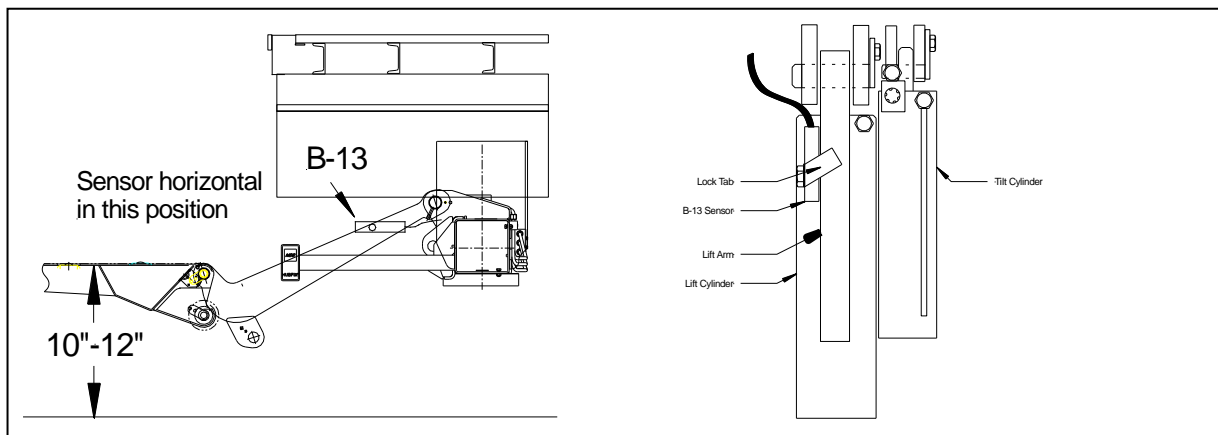

Figure 17 B-13 lift arm adjustment
- Adjust the B-13 sensor in a way that it is level with the ground like shown in Figure 17.